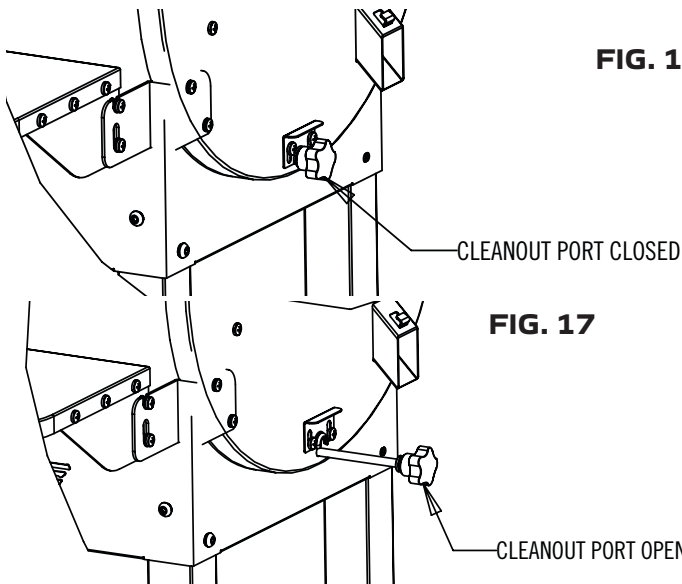

FIG. 17
2. Lift pullout lock and pull clean-out port knob to empty ash into ash cup. See Fig 17